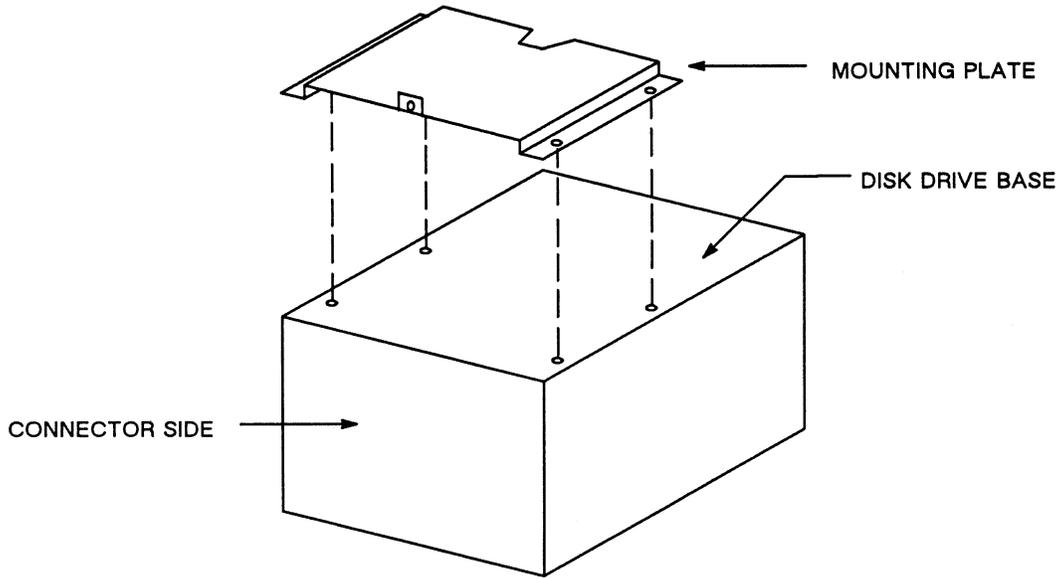

Figure 7-12. 170MB Disk Drive
3. Fasten the mounting plate (shipped with the disk drive) onto the side of the disk drive that contains the printed circuit board. See Figure 7-12. Tighten all four screws that have corresponding holes in the disk drive frame.
Figure 7-12 shows a 170MB disk drive with its mounting plate.